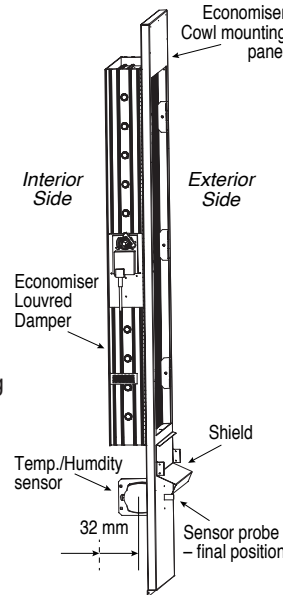

Fig.3 Fresh Air Inlet Panel - Side View
5. Factory fitted on units with Economiser option. Sensor requires adjustment from 'in-transit' to 'final site' position.; refer figure 3.
The *Carel* Temperature & Humidity sensor is located on the mounting bracket located on the inside wall of the economiser louvred panel and needs to be repositioned from its 'in-transit' position to its final position. Reposition the sensor body 32 mm to the right (refer Fig.3) using the holes provided, enabling the sensor probe to protrude into the outside air. This action should be carried out after the weather cowl is installed to avoid damage to the probe.
9. Check fresh air sensor in correct position (if applicable, refer figure 3 above).